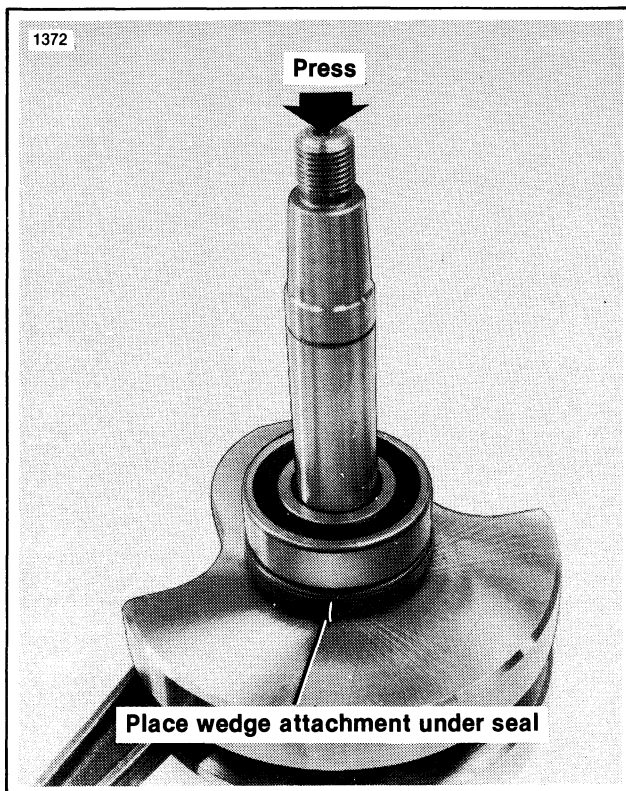

Figure 5-22. Press Crankshaft From Inner Bearing
11. See Figure 5-22. In some instances, the inner bearing and seal will be forced from the case and remain on the crankshaft. Place a WEDGE ATTACHMENT, Part No. 95637-46, under the seal and support on a press bed. Press the shaft from the bearing and seal.